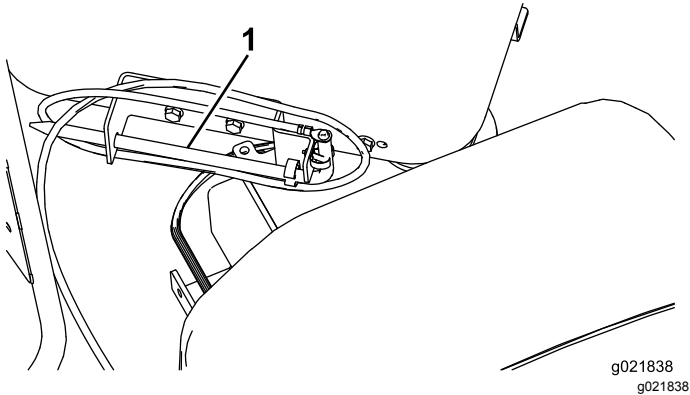

Figure 34
8. Store the grounding stake in the holder on the operator platform as shown in Figure 34.